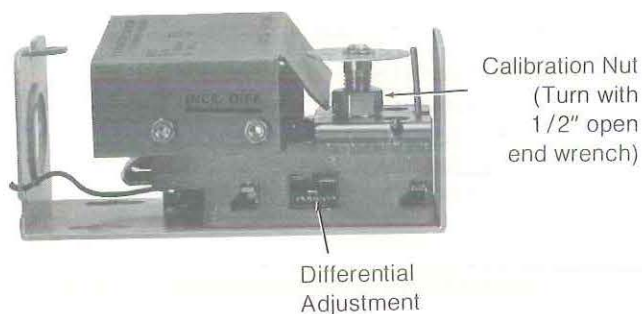

Figure 10
The differential is adjustable by turning the adjustor located on side of device (see Figure 10).
4. Turn the calibration nut (located under dial) until the temperature of the bulb is indicated on the dial. (See Figure 10.)